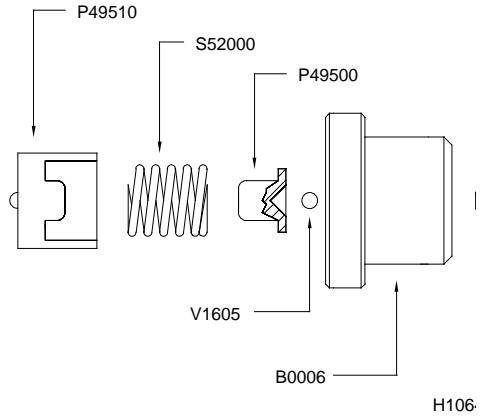

Figure 4-48: Assembly of Air Loaded and Spring Loaded Pistons
27.	Apply KRYTOX 240 AC grease to the compression plate (17) beveled cone. Insert the ball (20) into the greased cone.
28.	Insert both the compression plate (17) and ball (20) into retaining base (18). Refer to figure 4-48.
29.	Apply KRYTOX 240 AC grease to base socket head set screw (21) then screw it into retaining base (18). Leave about one thread of set screw showing.
31.	Place compression spring (16) on compression plate (17).
32.	Place compensation plate (15) over the compression spring (16).